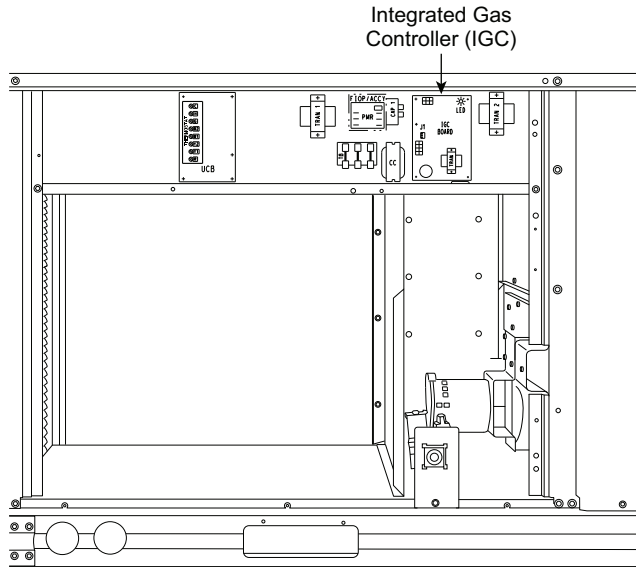
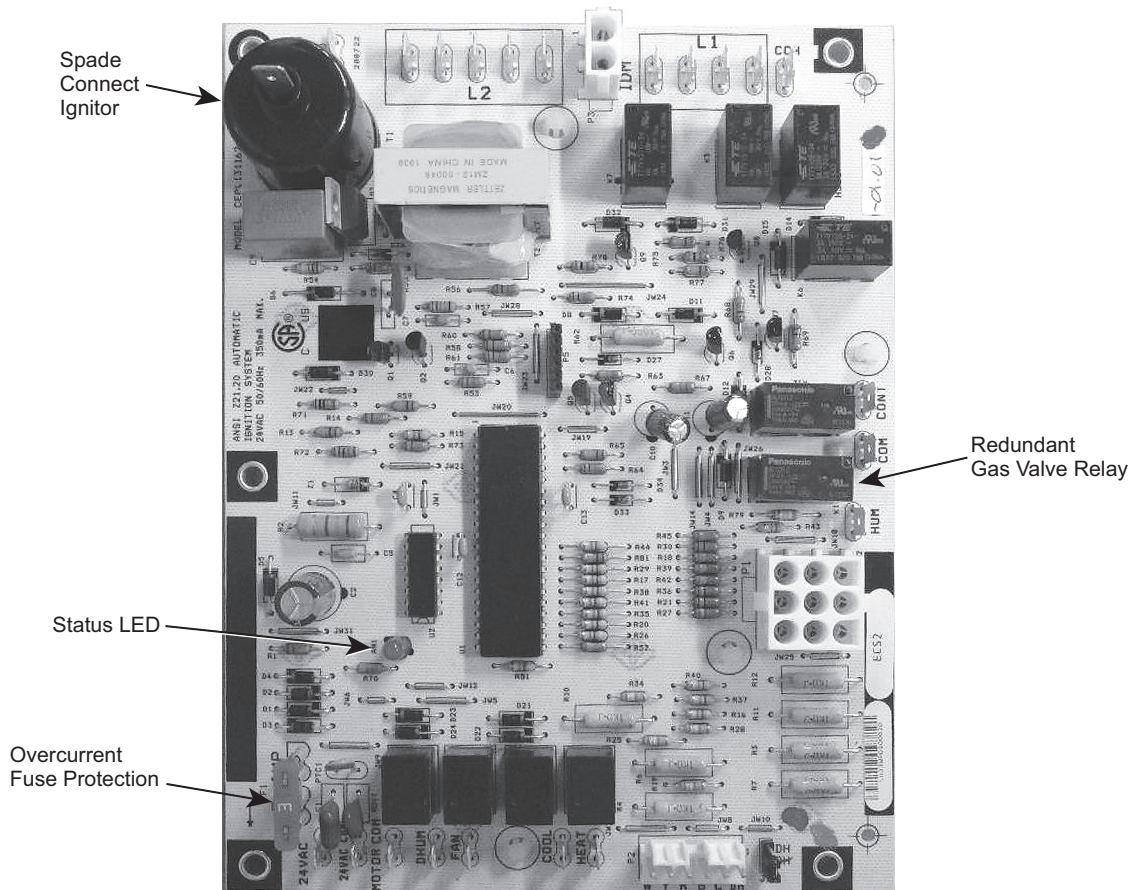

Fig. 54 — Unit Control Box/IGC Location
Fig. 58 — Integrated Gas Control (IGC) Board
8. Remove igniter wires and sensor wires at the Integrated Gas Unit Controller (IGC). (See Fig. 54.)
7. Disconnect the igniter wires and sensor wires at the integrated gas controller (IGC) (see Fig. 54).
Unit is equipped with a direct spark ignition 100% lockout system. The Integrated Gas Unit Controller (IGC) is located in the control box (see Fig. 54). The IGC contains a self-diagnostic LED (light-emitting diode). A single LED (see Fig. 58) on the IGC provides a visual display of operational or sequential problems when the power supply is uninterrupted. When a break in power occurs, the IGC will be reset (resulting in a loss of fault history) and the indoor (evaporator) fan ON/OFF times will be reset. The LED error code can be observed through the viewport. During servicing, refer to the label on the control box cover or Table 9 for an explanation of LED alarm code descriptions.